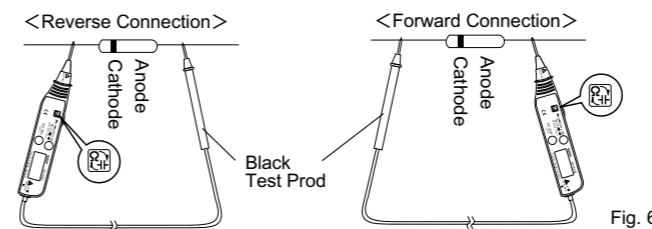

Fig. 6
4. Connect Black Test Prod to Anode and Red Test Prod to Cathode of the diode being measured. This is Reverse Connection. Confirm that the LCD displays OL symbol. Refer to the figure 6.